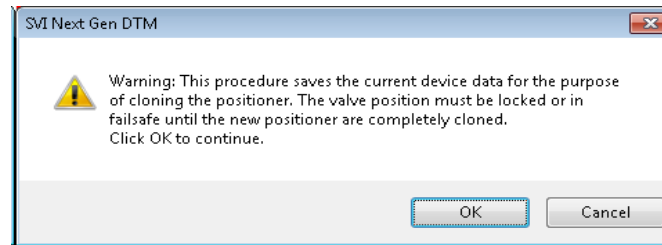

Figure 108 Save Data
4. Click **Step 1: Saving Data for Cloning** in the navigation pane and Figure 108 appears.